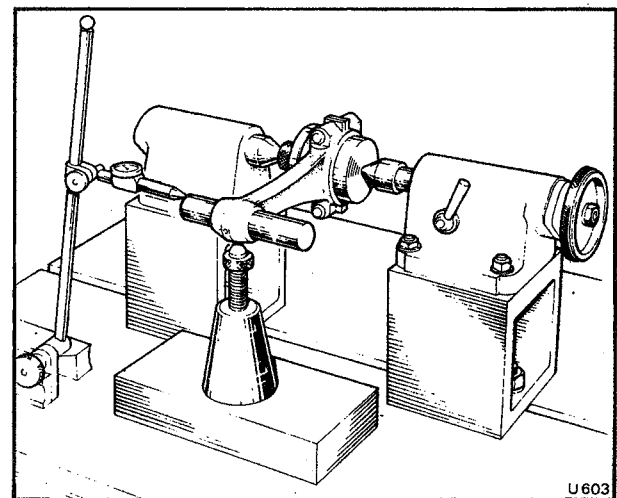

Fig. E23 Checking the connecting rod for twist
3. Mount the connecting rod on an inspection surface table as shown in Figure E23.